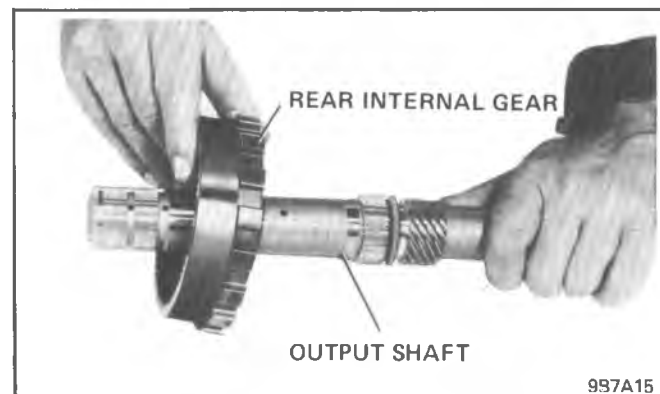

Figure 7A1-49 Removing Rear Internal Gear
- d. Inspect manual shaft to case seal for damage. If necessary, pry out manual shaft seal using screwdriver. (Figure 7A1-54).